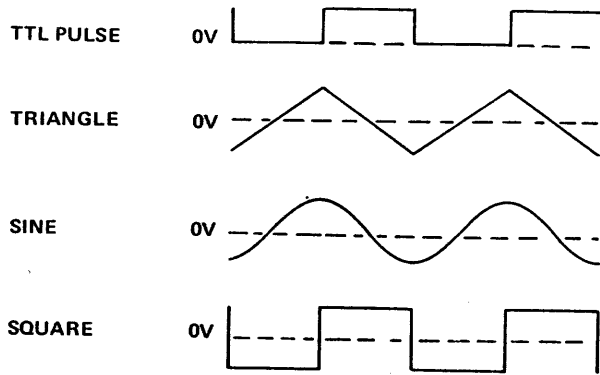

Figure 3-2. Output Waveforms
counterclockwise, negative. When OFF, the waveform is balanced around signal ground (figure 3-2).
⑨ TTL PULSE OUT Connector
A fixed amplitude Transistor-Transistor Logic (TTL) square pulse train of the output frequency is provided at the PULSE OUT (TTL) connector. (TTL levels are 0V to 0.4V for a logic low and 2.4V to 5V for a logic high.) The output can drive up to 20 TTL loads. The pulse train can also be used as a synchronizing reference for the main output ⑦. Phase of the waveforms relative to the TTL pulse is shown in figure 3-2.
⑩ SWEEP WIDTH/OFF